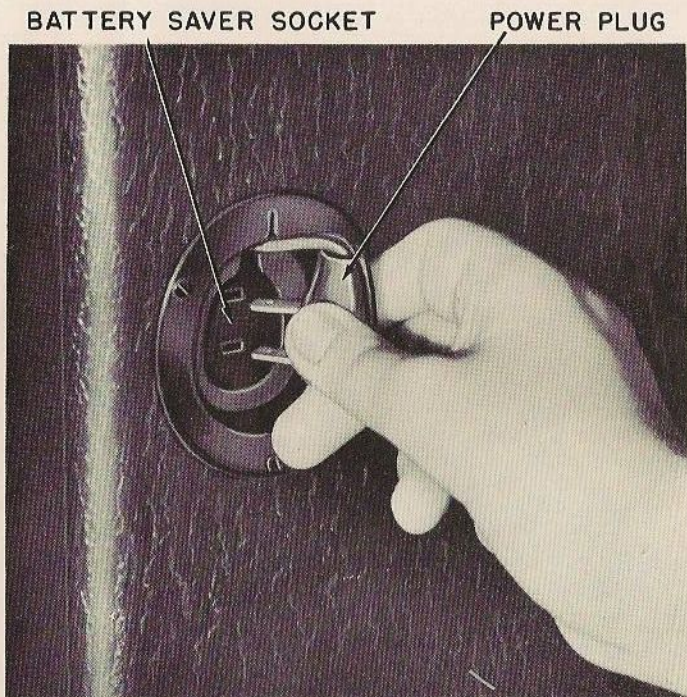
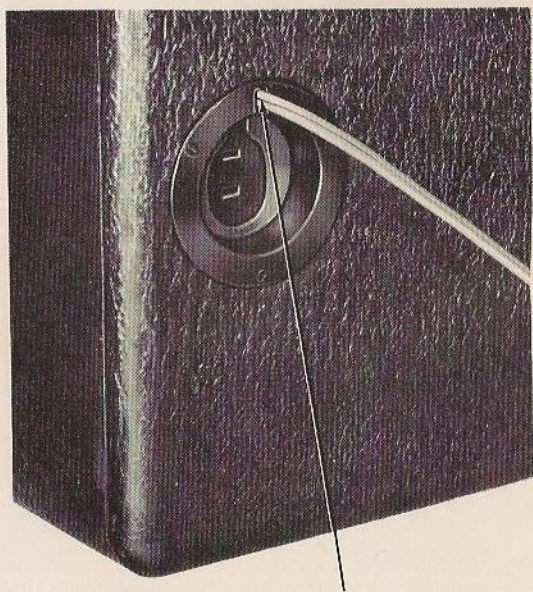

Figure 2.—Insertion of 110 Volt Plug Into Battery Saver Socket.
Figure 3—Power Cord Captivated in Retaining Slot.
- A. The 110-volt plug must be placed in the battery saver socket provided in order for the receiver to operate on the Z985 dry battery pack. (See fig. 2.) The excess 110-volt line cord is automatically taken up by the line cord reel inside the cabinet.
- A. To operate the receiver on 110-volt 60 cycle Alternating Current or 110-volt Direct Current it is only necessary to remove the power plug from the Battery Saver Socket at the side of the receiver, (See fig. 2.), pull out the Power cord and captivate it in the retaining slot, (See fig. 3).